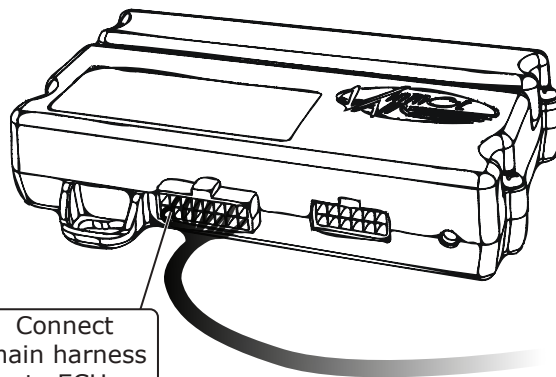

Figure 2
4. Connect the main harness to the ECU (See Figure 2, below).